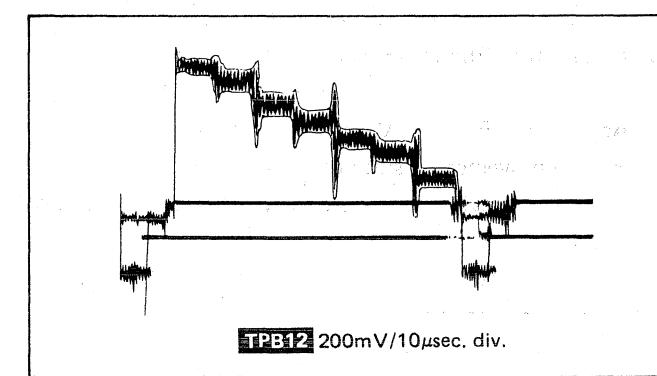

Fig. 13
4. Measure and record the amplitude of the waveform **TPB12** as shown in Fig. 13.